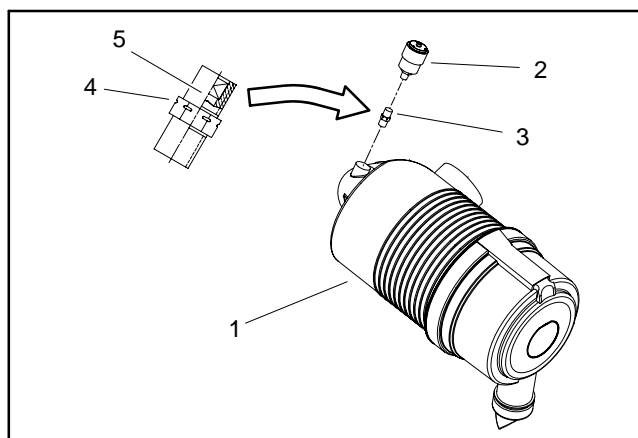

Figure 3
A. If service indicator (item 12) was removed from air cleaner housing, apply thread sealant to adapter threads before installing adapter and indicator to housing. Install adapter so that grooves in adapter hex and adapter filter element are installed toward service indicator (Fig. 3). Torque indicator from **12 to 15 in-lb (1.4 to 1.6 N-m)**.